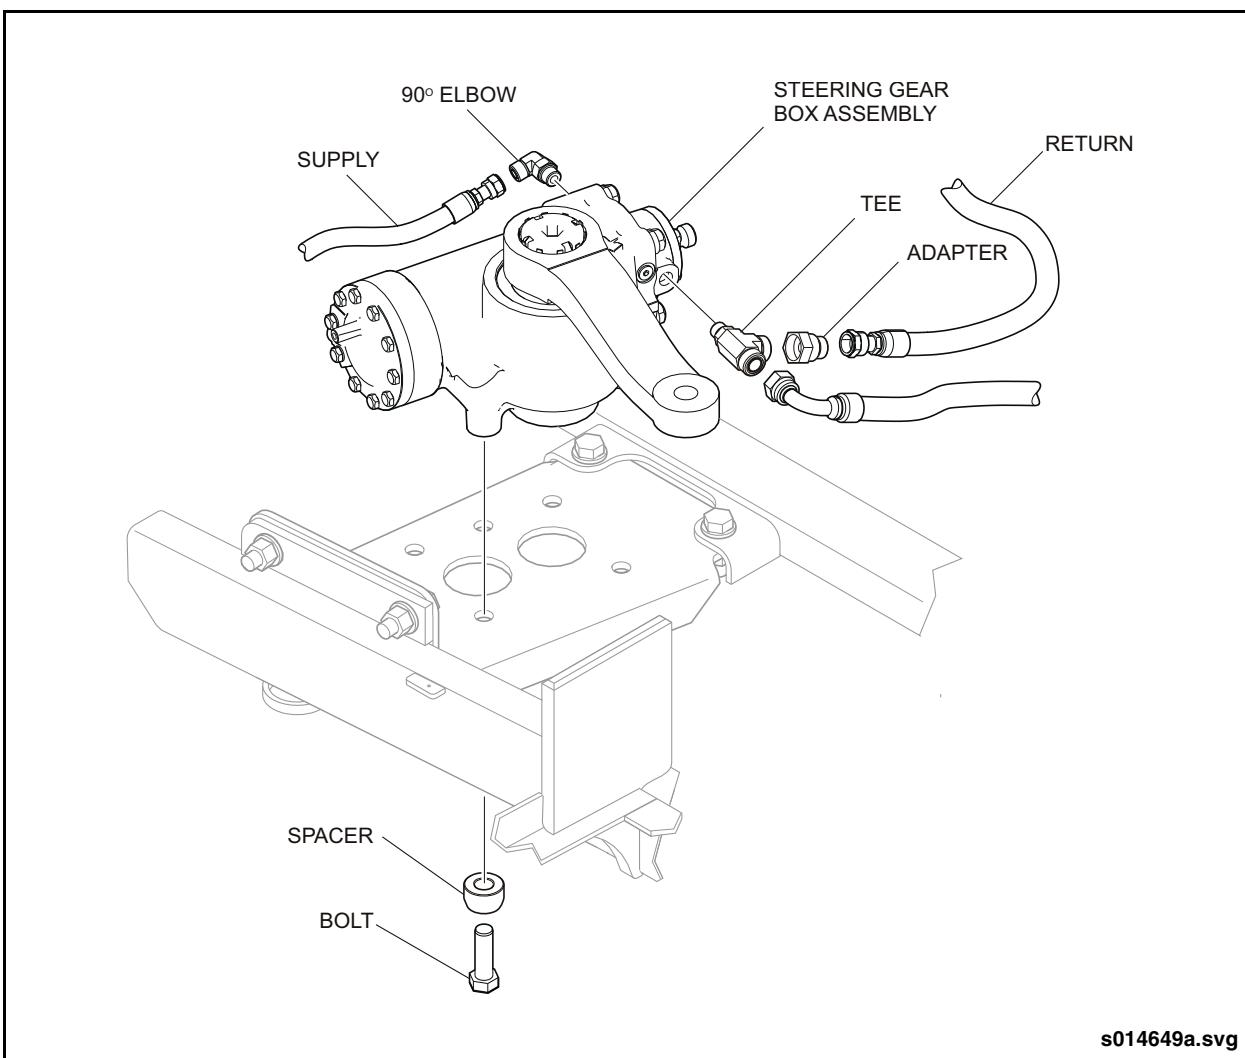

Fig. 3-17: Steering Gearbox Removal & Installation
5. Disconnect the pressure and return hoses and from steering gearbox and cap the hoses. See “Fig. 3-17: Steering Gearbox Removal & Installation” on page 33.